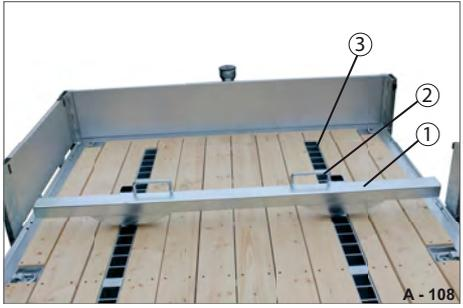

Fig. 162 Load securing rail
- ▶ Raise the securing rail by the handles (Fig. 162/2).